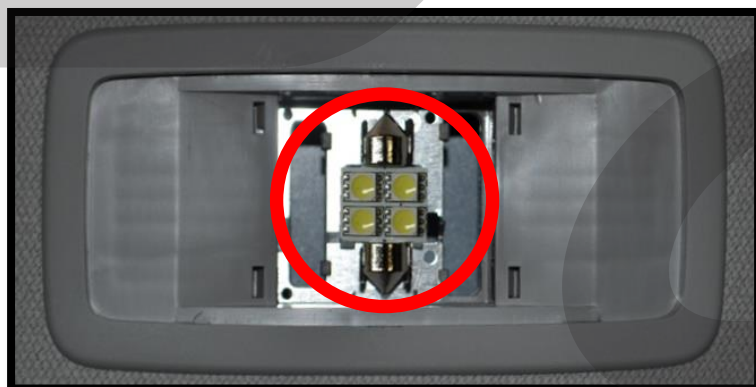

Figure 2c
c) Install one of the supplied 31mm LED's in the bulbs place (shown in **Figure 2c**). Check to see that it illuminates. If it does not, turn it around and reinstall it.